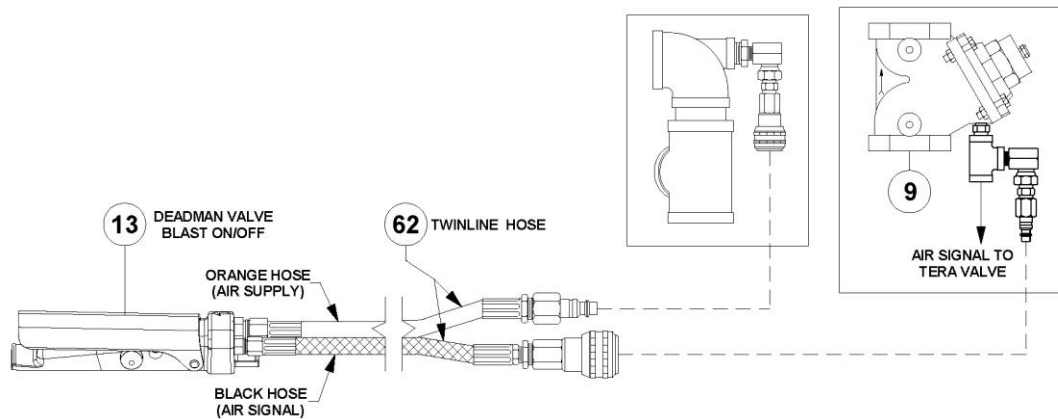

Figure 5.4 – Tera Valve™ Pneumatic Blast Control System
5.9.1. Pneumatic Deadman System: When the pneumatic deadman lever (#12) is pressed down, air supply from the orange hose of the twinline hose (#15) flows into the black hose. Air flows through the black hose to the signal ports of the auto air valve (#9) and Tera Valve (#14) causing both to open. When the deadman lever is released the air signal is cut off and the remaining air vents from the deadman and the quick exhaust valve (#49). The quick exhaust valve provides a quicker blast shutdown similar to the function of the control valve (#20) in an electric system. See Figure 5.4 and the drawing in Section 9.1. **Note:** The quick exhaust valve (#49) is not required for electric units or systems with abrasive cutoff.